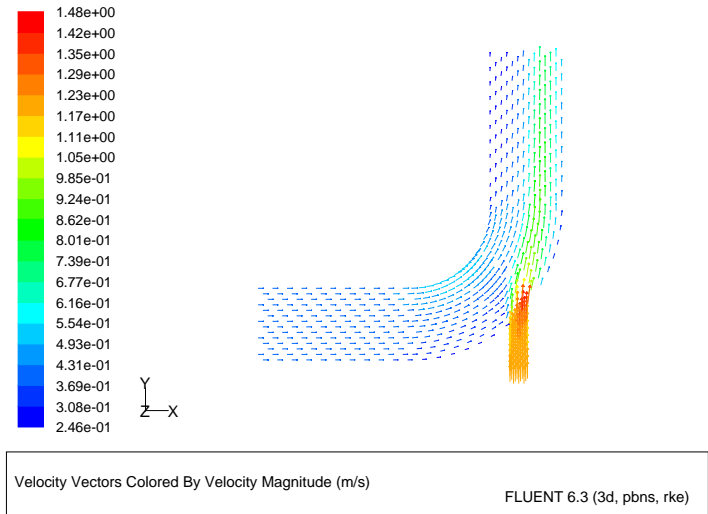

Figure 1.7: Resized Velocity Vectors
3. Display velocity vectors on the symmetry plane (Figures 1.7 and 1.8).
- Click Display again (Figure 1.7).
To do this, drag your mouse to the left and either up or down, while pressing the middle mouse button. A rectangle will appear on the screen. Make sure that the rectangle is approximately the same size as the rectangle you made while zooming in, and then let go of the middle mouse button. The image will be redisplayed at a lower magnification (Figure 1.7). If the resulting image is not centered, you can translate the view by clicking once with the middle mouse button near the center of the geometry.